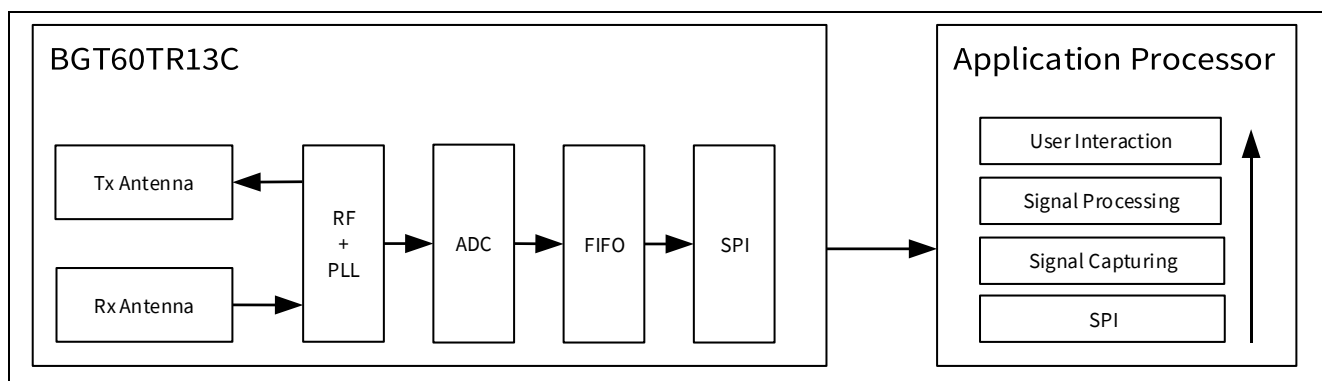

Figure 1 **Data flow in the complete radar sensor system**
The core functionality of BGT60TR13C is to transmit frequency modulated continuous wave (FMCW) signal via the transmitter channel (TX) and receive the echo signals from the target object on the three receiving channels (RX). Each receiver path includes a baseband filtering, a VGA, as well as an ADC. The digitized output is stored in a FIFO. The data are transferred to an external host, microcontroller unit (MCU) or application processor (AP), to run radar signal processing. A typical implementation of a sensor system consists of two main blocks only (see Figure 1):